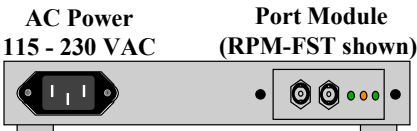

Figure 2.2.1c: Rear view - Magnum 1008 Workgroup Hub configured with PM
As an alternative to the basic AUI port, it is possible (at the time of initial order) to replace the basic AUI rear port with any Magnum Port Module (PM). (See Figure 2.2.1c). This option gives the Magnum 1008 great flexibility to easily conform to any standard Ethernet media environment. When configured with a Repeater Port Module (RPM), the rear port can be used for direct connection to any standard Ethernet media. With a Bridge Port Module (BPM), the rear port is used to bridge-isolate the Magnum 1008 from the rest of the network, increasing bandwidth for both the local users and the rest of the network. Refer to Section 2.4 for Magnum Port Module information. (NOTE: The Magnum 1008's basic AUI port is *NOT* an RPM-AUI, it is simply an AUI port without any LEDs).